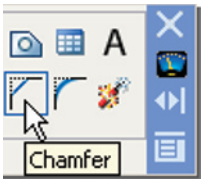

Fig. 5.41 The **Chamfer** tool icon from the **2D Draw** control panel
2. Call **Chamfer** – either *click* its tool icon in the **2D Draw** control panel (Fig. 5.41), or *click* on its tool icon in the **Modify** toolbar, or *pick* **Chamfer** from the **Modify** drop-down menu, or *enter* `cha` or `chamfer` at the command line, which then shows: